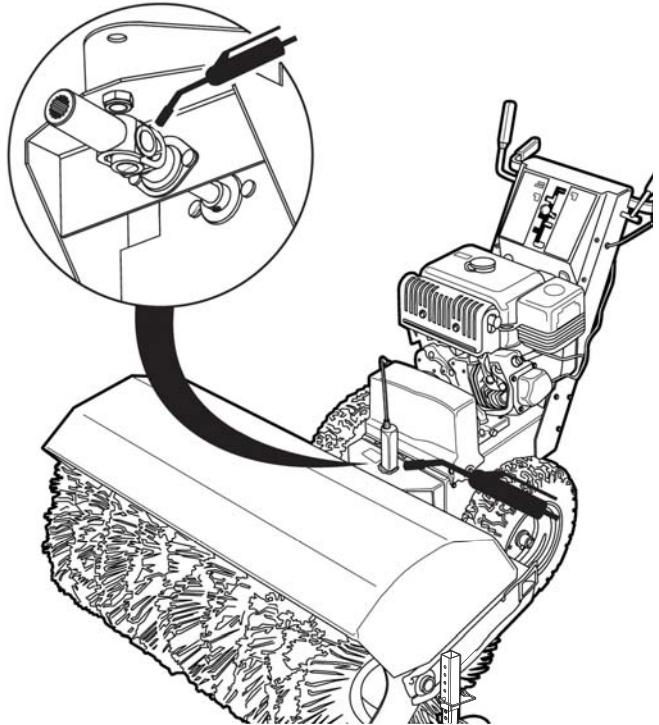

Figure 17
4. Grease broom drive universal joint (See Figure 17).
5. Grease broom pivot pin (See Figure 17).